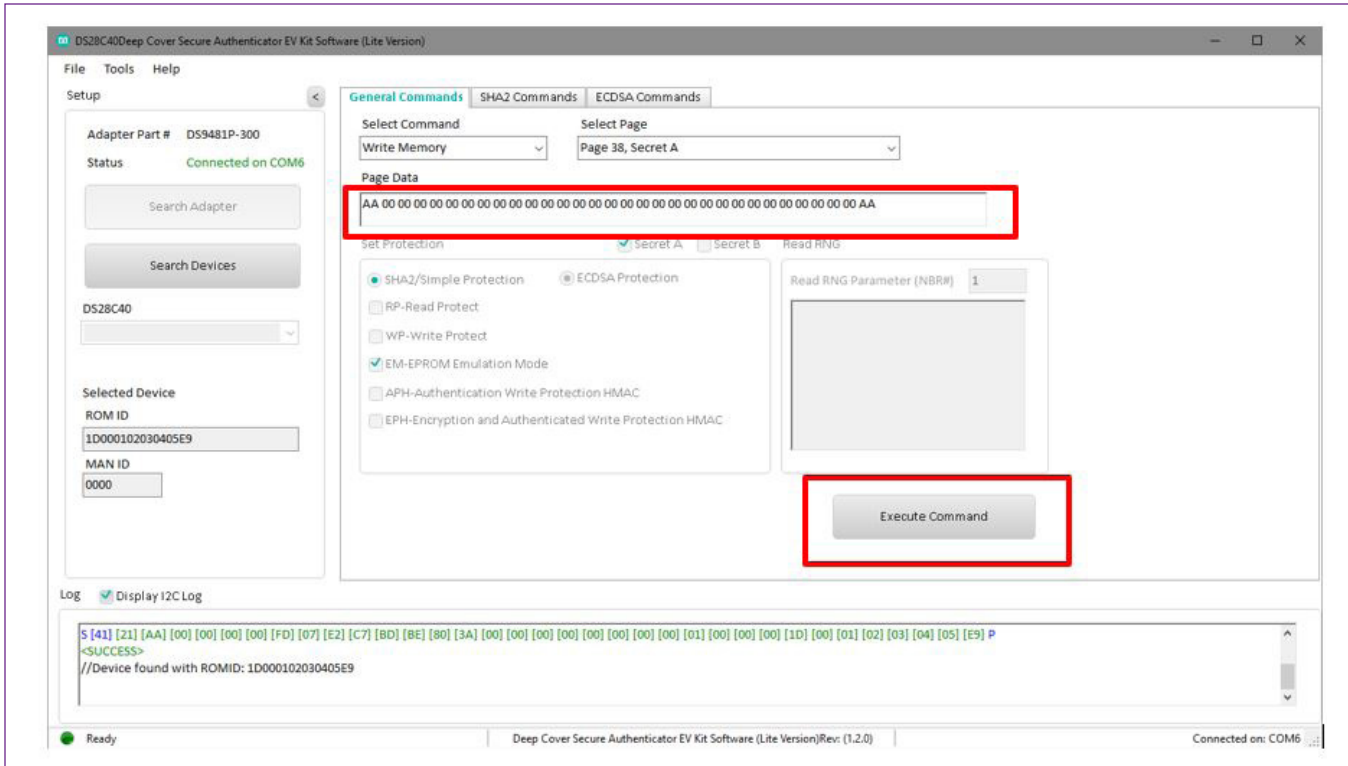

Figure 18. Selecting SHA2 Command
- 3) Write the desired secret on the **Page Data** text box and click **Execute Command** button (Figure 18).